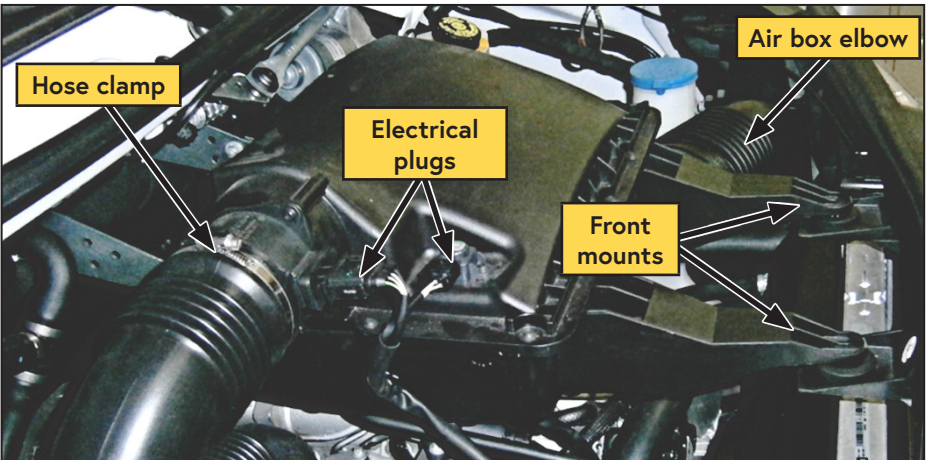

Figure 5 — Remove air box
- Remove the airbox located in the center of the engine bay. Remove the 2 electrical plugs, the hose clamp, airbox elbow and pull the 2 front mounts straight up. Move the assembly out of the way (Figure 5).